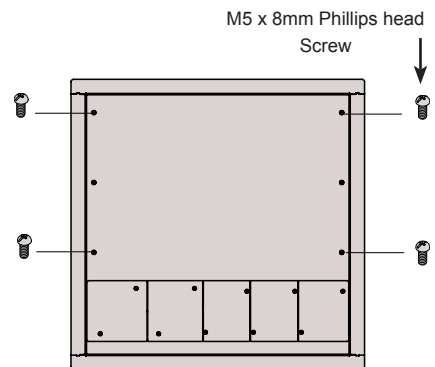

Figure 1
- 1) Insert four (4) M5 x 8mm Phillips head screws loosely into the outer holes inside the GB-AVSTOR3 (Figure 1).